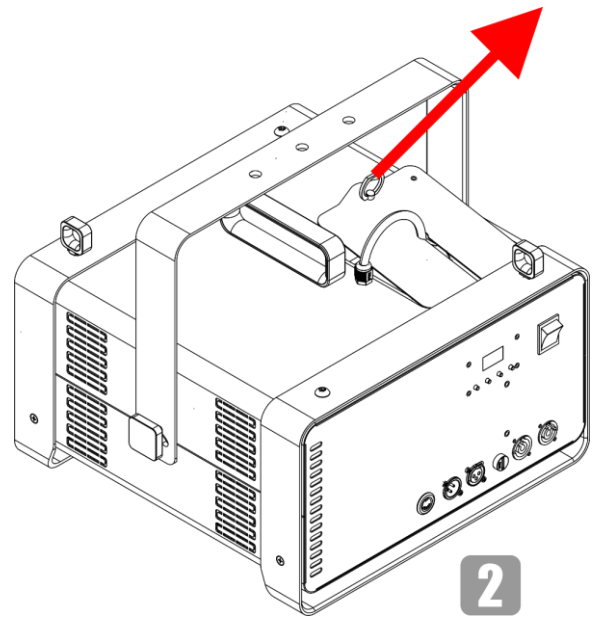

Fig. 10
- 02) Open the service lid, as shown in Fig. 10.